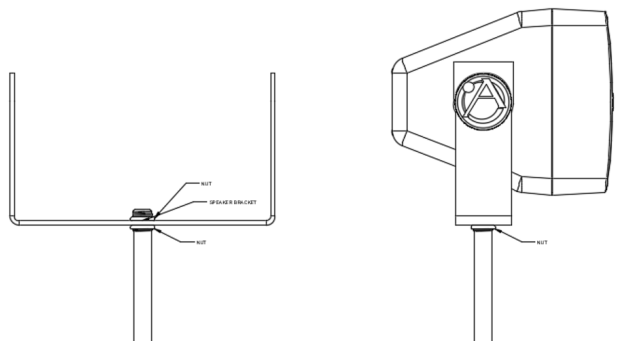

Figure 3
3. Place the SM42T bracket on the inner pole of the stand, install the nut on top of the bracket and tighten the nut so that the bracket cannot move. Position the speaker in the bracket and install the screw knobs on both sides of the speaker, aim the speaker toward the area that it needs to cover and then tighten the knobs. Repeat this process for the all speakers needed to cover the area. Figure 3